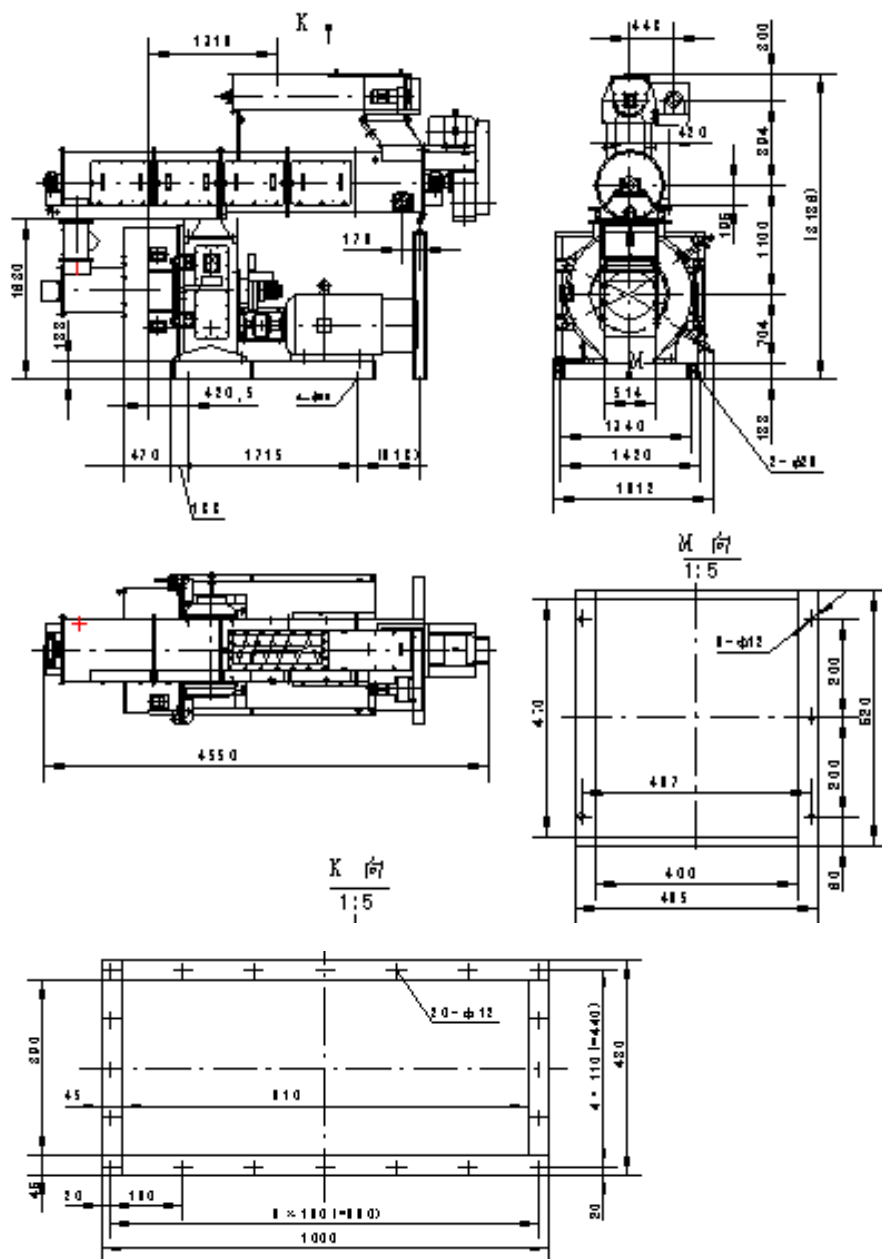

Fig.5 SZLH678 (768) MX Pellet Mill Sample
4.1.2 The equipment must be installed on the firm foundation. Dig the foundation according to the base size on the schematic diagram (see Figure 5), pour cobble concrete and screw the foundation bolt on. Some good practice should be followed when installing the pellet mill on the